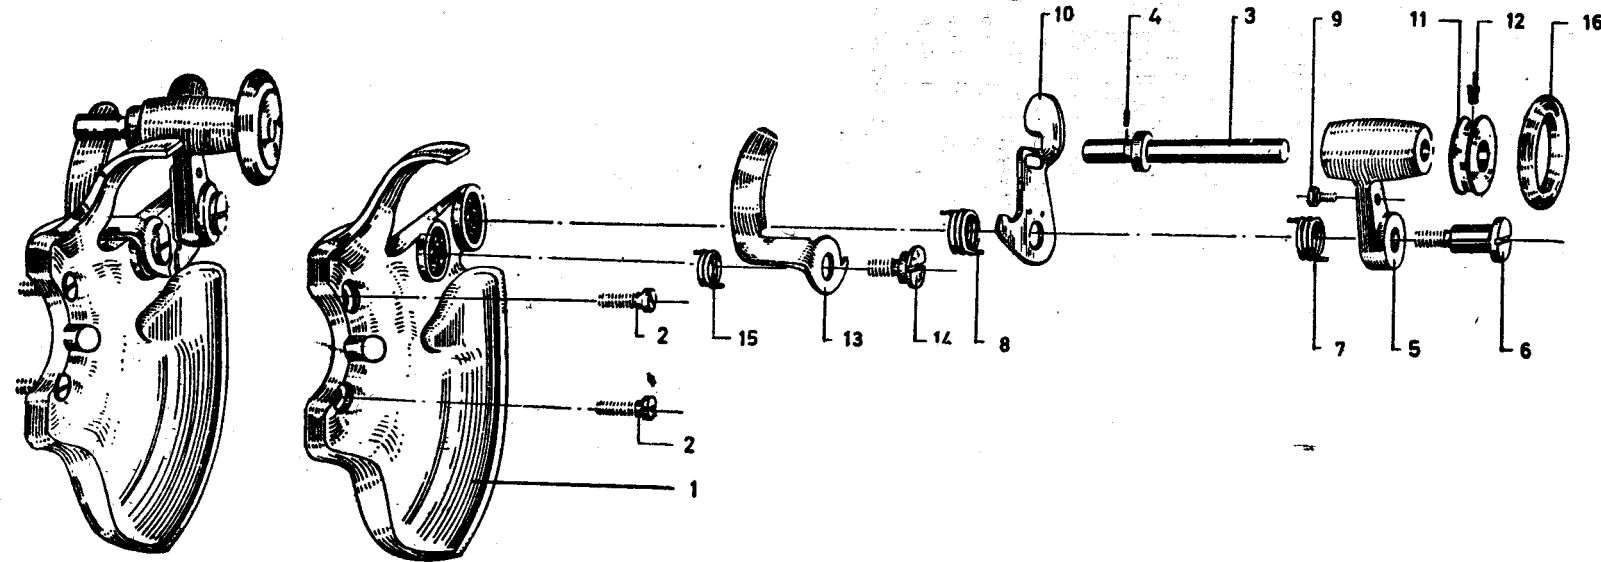

FIG. 3 BOBBIN WINDER ASSEMBLY
**2.3 Bobbin Winder Assembly — See Fig. 3.**